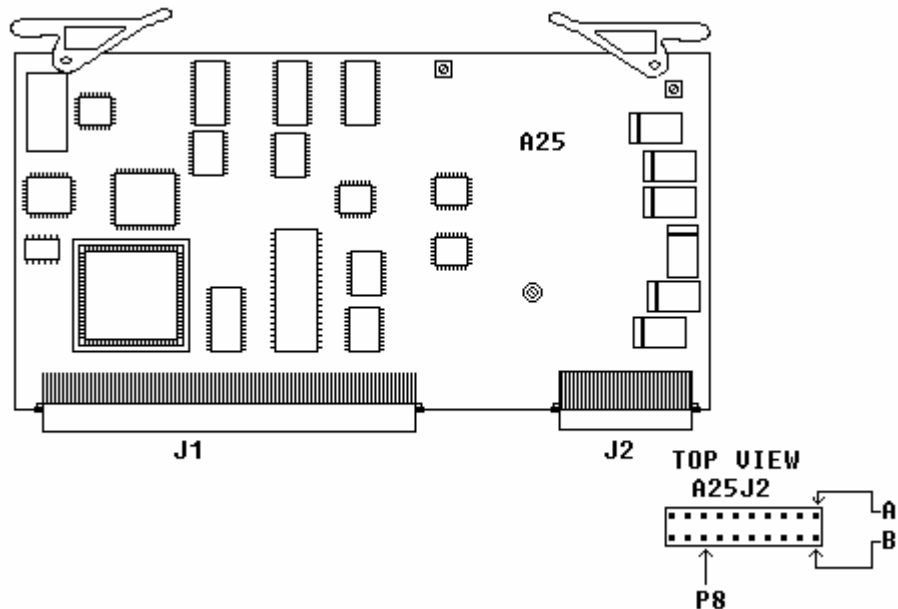

Figure 4. A25 digitizer module.
(16) Set signal generator for a 10.7 MHz, -30 dB output.
(17) Connect multimeter to A25 J2 pin 8B (fig. 4) on digitizer module and set multimeter to measure volts dc.